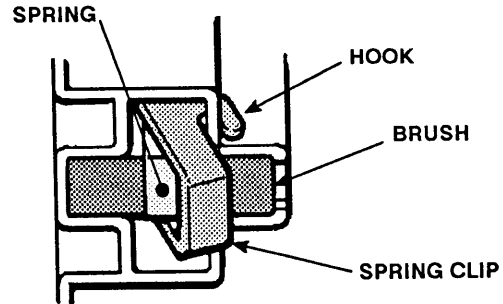

Fig 8
2. Push in the spring clip to unhook it, and then pull it out. See Fig 8.